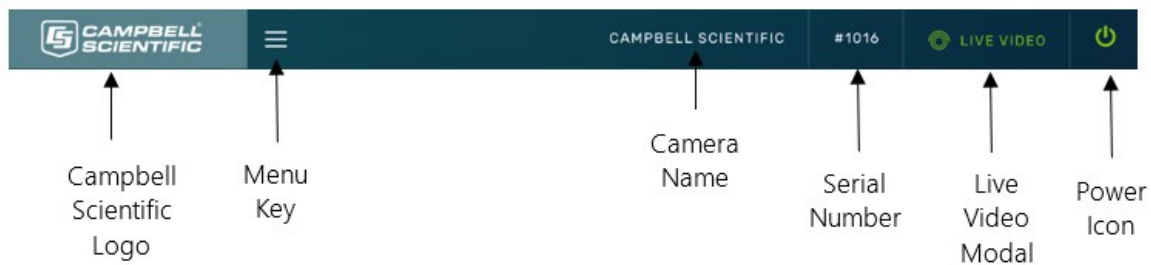

FIGURE 14-3. Top navigation bar – desktop view
- The top of every page includes a top navigation bar (FIGURE 14-3 (p. 38)), which includes the **Camera Name** set in General Settings (p. 75), the camera serial number, a link to the **Live Video** modal (see Live Video modal (p. 38)), and the green power icon.
The green power icon (see FIGURE 14-3 (p. 38)) on the top right of every page provides a safe power down sequence. If at all possible, the green power icon should be used any time the power needs to be removed from a camera that is actively collecting and storing photos or video. The camera will completely shut down for a period of 10 minutes and ensure the camera memory is not corrupted. Once selected, a notification will pop-up asking the user if they are sure they want to power down the camera; proceed accordingly.